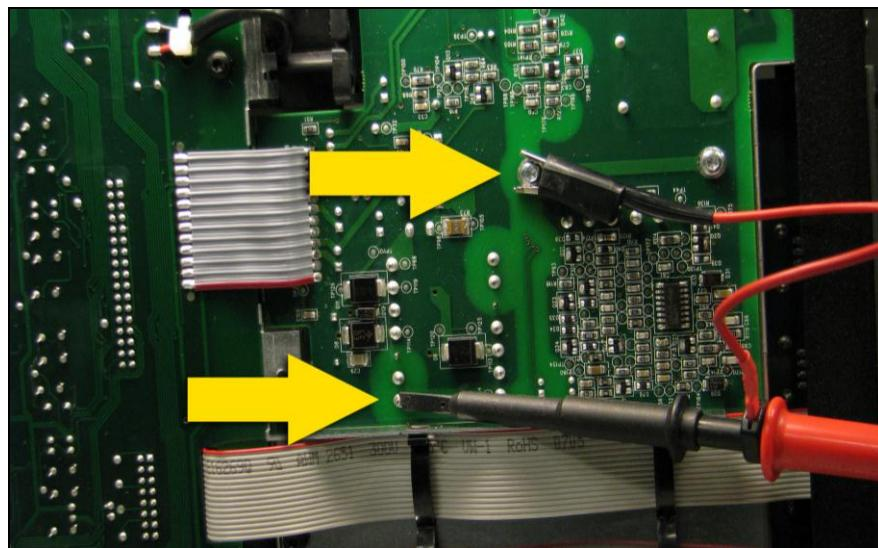

Fig. 3
3.	Connect an oscilloscope probe (power supply oscilloscope) (fig. 3).